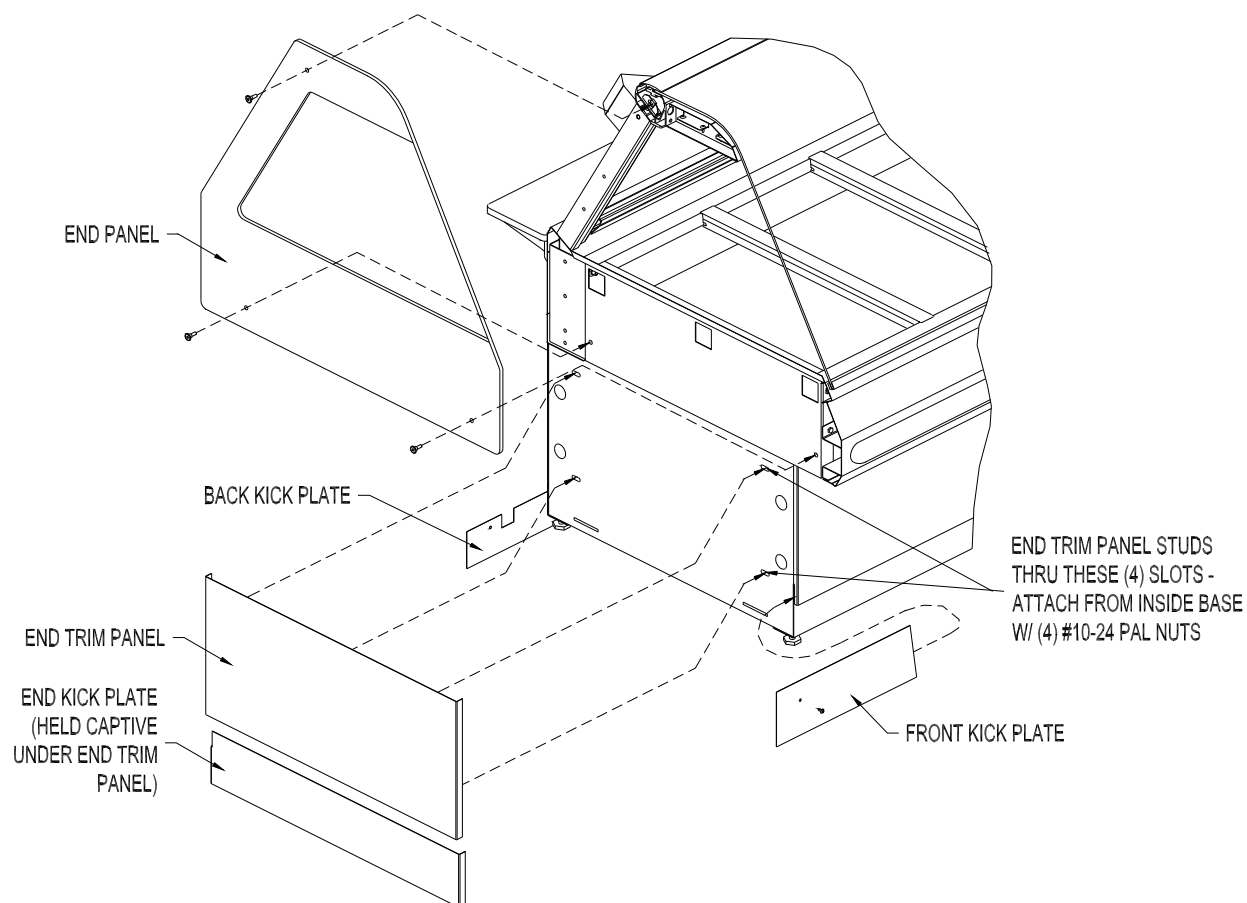

Figure 2. Floor Model - End Kick Plate & End Panel Mounting
NOTE: None of the end components shown in Figure 2 should be attached to adjoining case ends
1. In order to install the Kick Plates it will be necessary to remove the End Trim Panels (see Figure 2). Remove the retaining nuts located inside the base with a 3/8" wrench. From outside of the case pull the End Trim Panels away from the case.
2. Slide the front kick plate (the wider of the two) behind the lower finished front panel of the case (see Figure 2).
7. Set the End Kick Plates into position on the ends of the case flush with the floor (see Figure 2).
Attach the End Panels to the ends of the case(s) as shown in Figure 2 using the shoulder screws provided. For Glass End Panels only, slide the plastic bushings provided over the shoulder screws before inserting the screw into the glass panel. Be careful that the screws do not bind in the holes in the glass panel.